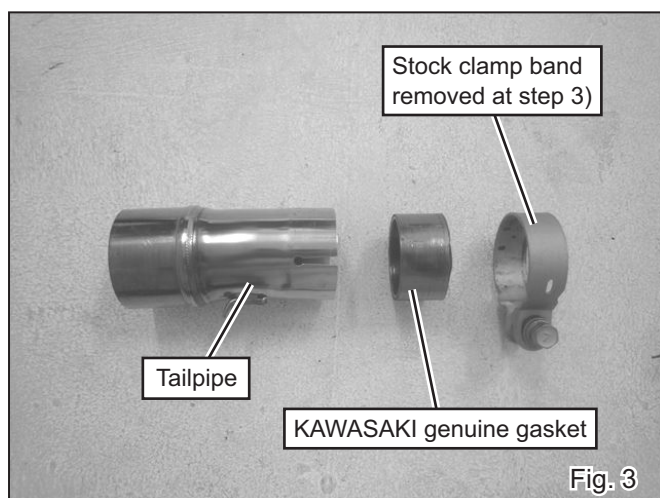

Fig. 3
- 4) Insert KAWASAKI genuine gasket into front of Tailpipe and install stock clamp band removed at Step 3) (See Fig. 3).